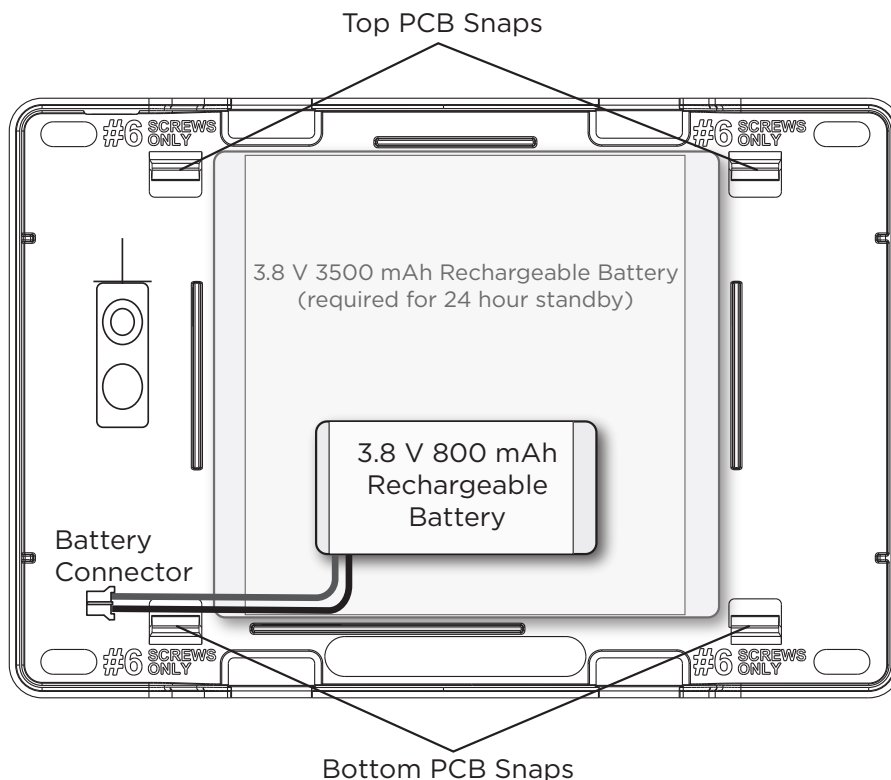

Figure 3: Standby Battery Replacement
The XTLplus Series 800 mAh rechargeable battery is used to provide 4 hours of standby battery power when DC power is not available. The battery is intended for backup power only and not to operate the panel on a daily basis. If the battery is low, or not plugged into the BAT battery connector, a low battery condition is indicated by the panel. If 24 hour standby battery power is needed, connect the 3500mAh battery. See Figure 3.
5. Place the new battery into the XTLplus Series housing base with the battery wires directed toward the bottom left corner. See Figure 3.